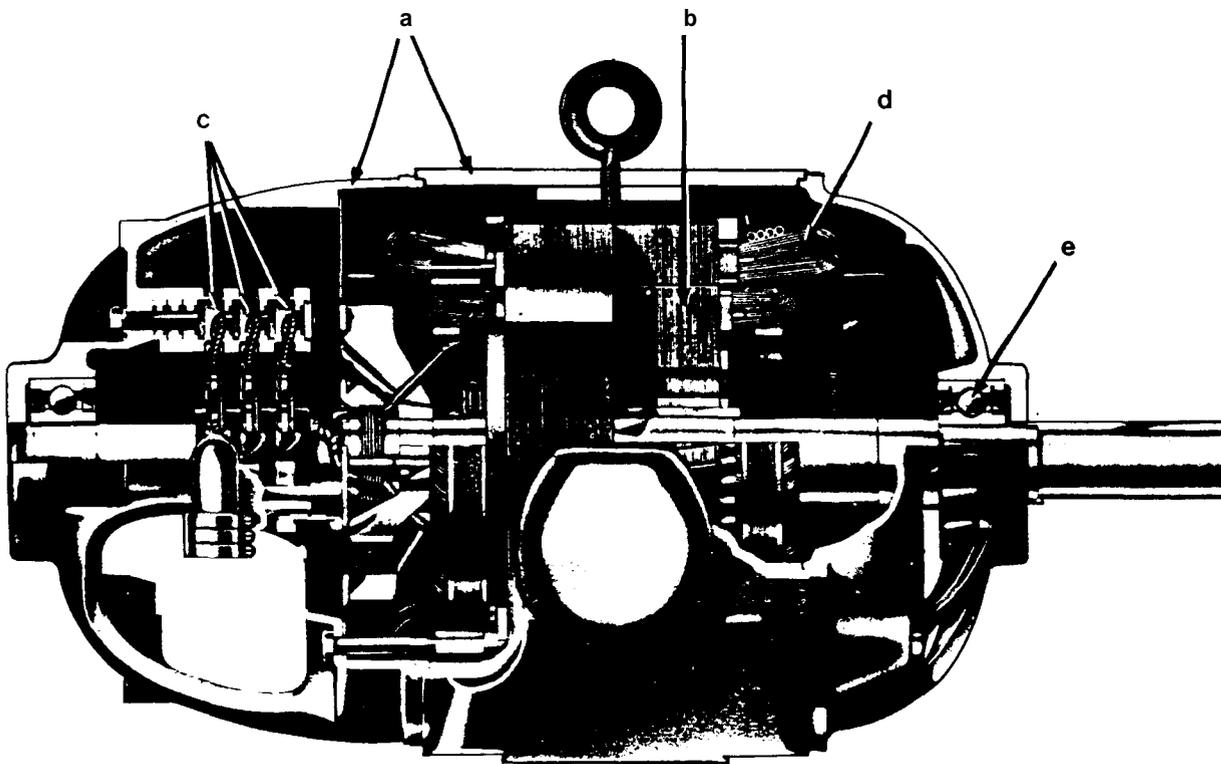

Figure 4-2. Cutaway View of Wound-Rotor Induction Motor: a) Housing, b) Roto Assembly, c) Slip Ring Brushes, d) Stator Windings, 3) Ball Bearings.
b. Wound-rotor induction unit. This AC motor has connected to its collector rings the insulated phase windings on the rotor (fig 4-2). Through stationary brushes in contact with the collector rings, any desired value of external resistance may be added to the secondary (rotor) winding to give greater speed control of the motor. Also, use of external resistance allows the motor to deliver a high starting torque with a relatively small inrush current.